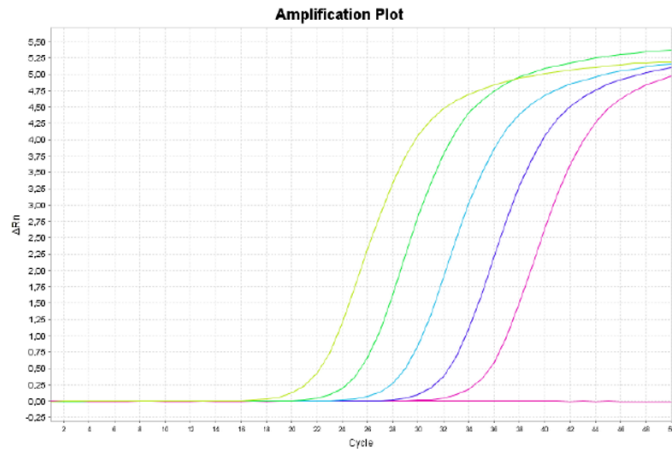
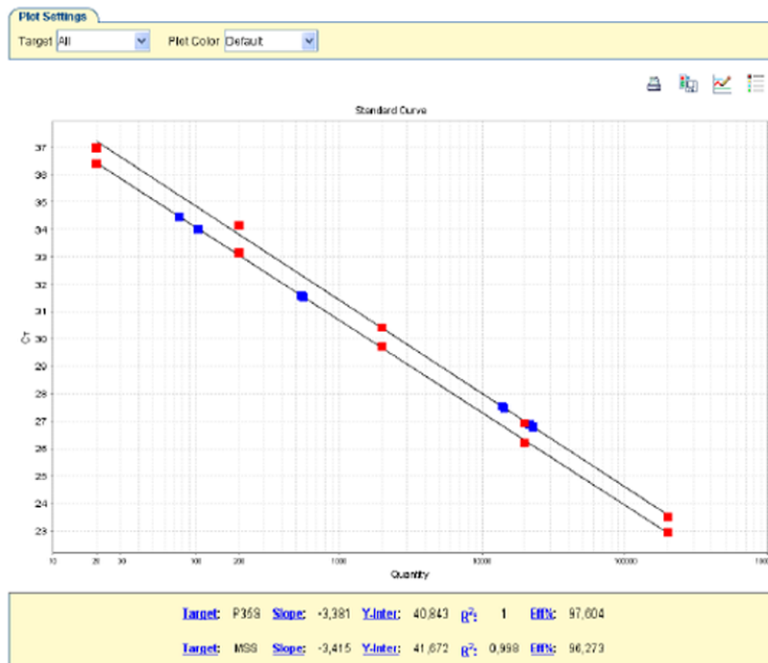

Figure 3 Example amplification curves for P35S Standard dilution series.
Figure 4 Example standard curves for P35S and MSS targets using P35S Standard dilution series.
- View the amplification plots for all reactions to make sure that they appear normal. See Figure 3 and Figure 4 for example data.
P35S Standard dilution series	Amplification should be detected in all five dilutions for both P35S and MSS PCR series (see Figure 3). The standard curves derived from the dilution series should meet the following requirements (see Figure 4): <ul style="list-style-type: none"> The efficiency of the curve should be 86–110% (slope between –3.7 and –3.1). The correlation coefficient (R²) should be >0.98.
- Calculate the number of copies of P35S and MSS using the respective standard curves (Figure 4).